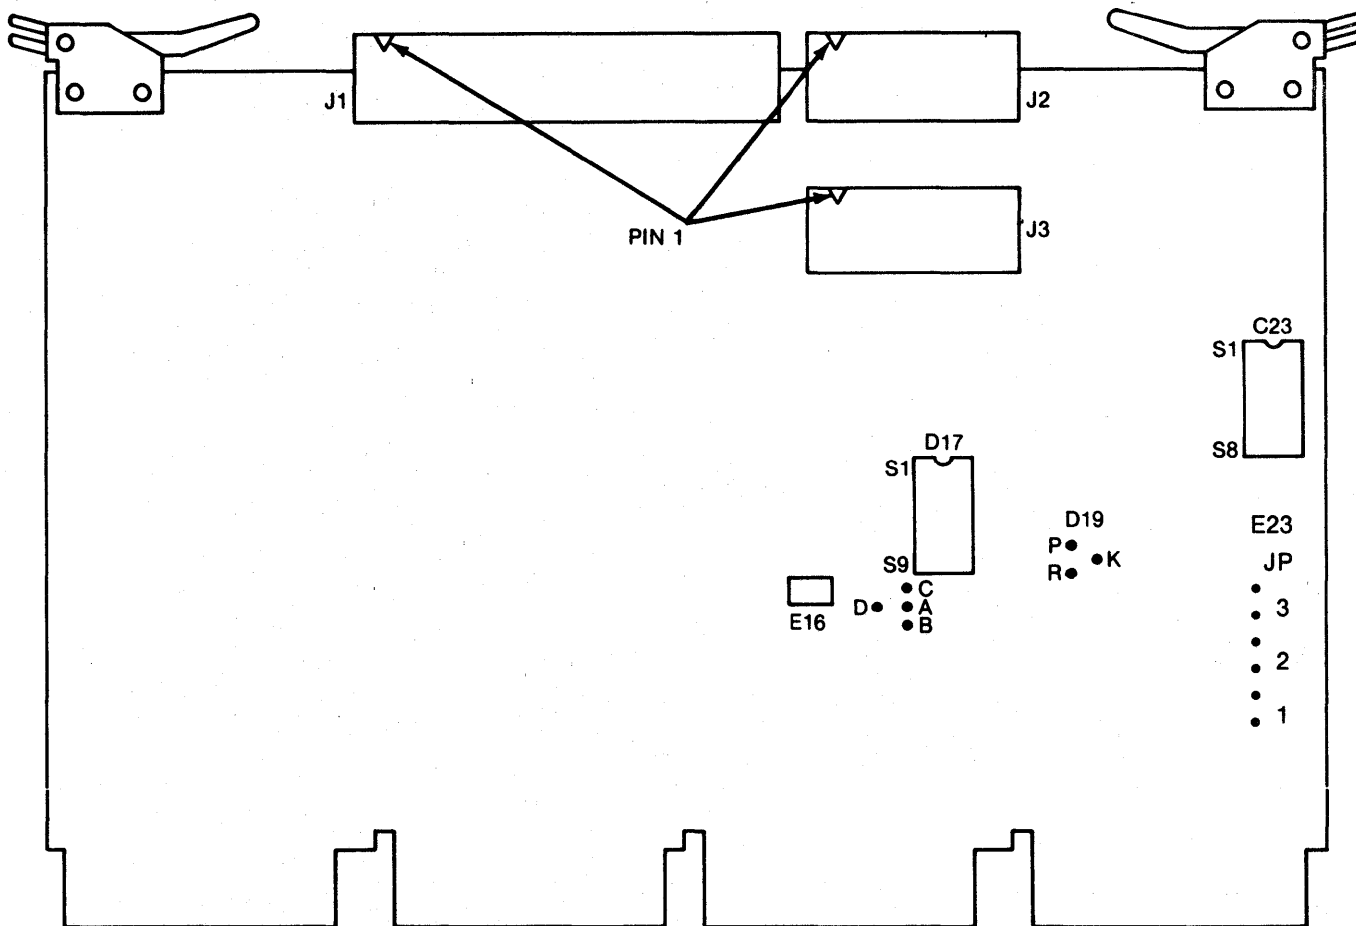

Figure 2-1. Controller Configuration
Installation instructions for the disc drive are contained in the disc drive manual. Before installing any components of the disc system, read Sections 1, 2 and 3 of this manual. Figure 2-1 illustrates the configuration of the controller. Tables 2-1 and 2-2 describe switch and jumper settings.
3. Feed the module connector end of the disc I/O cables into the controller module connectors. Ensure pin 1 is matched with the triangle on the connector as shown in Figure 2-1. Install the cable connectors into the module connectors. Verify that the connectors are firmly seated.
2. See Figure 2-1 for proper positions of the switches and jumpers. See Tables 2-1 and 2-2 for switch and jumper settings.